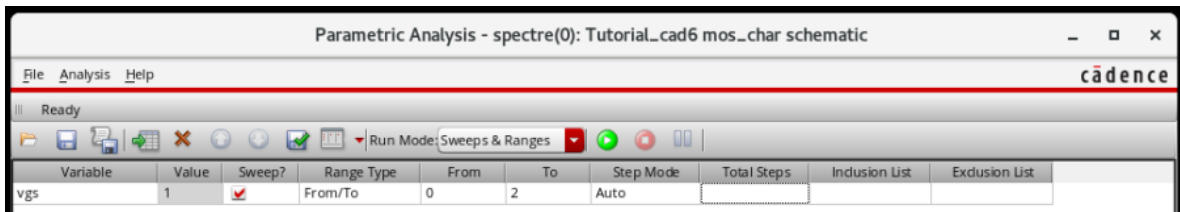

Figure 6: Parametric Analysis Settings to Sweep  $V_{gs}$  from 0V to 2V
2. To access the parametric analysis tool, select Tools > Parametric Analysis from the ADE toolbar. A new window will open allowing you to set the sweep options for a specific variable. To sweep the gate voltage from 0V to 2V, you may set the parametric analysis options as shown in Fig. 6 below and then press the green play button to run the simulation.